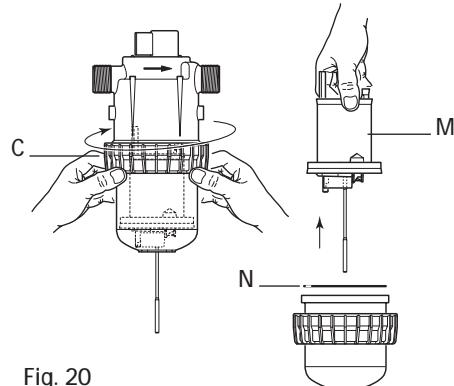

Fig. 20
- Unscrew the pump body nut by hand (Fig. 20-C) and disassemble pump body.
- Remove the motor piston (Fig. 20-M) by pulling it up.
- Change and reassemble in the reverse order to the above. To do this, insert the motor piston partially into the lower pump body (step ①) (carefully insert the lips of the motor piston) and partially into the upper pump body (step ②), taking care not to damage the pump body seal (Fig. 20-N), then assemble.
- Step ③: Tighten the pump body nut by hand.
- Refit the injection part assembly, but not without having cleaned or replaced its sealing (Fig. 20-N).